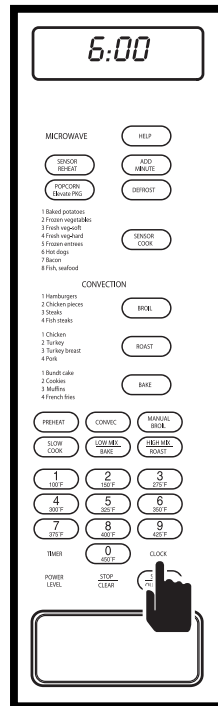

Figure 3-48.
4. Press CLOCK key, "ENTER - COOKING - PROGRAM" will flash on display (See Figure 3-48).